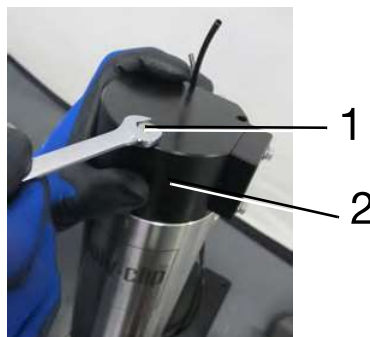

Fig. 7-20 1 Screw
- Hold the valve head (2) while you unscrew the screws (1) using the open-ended spanner (Fig. 7-20).